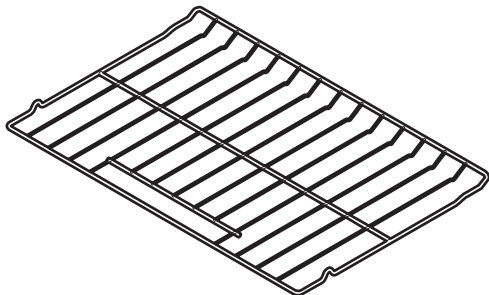
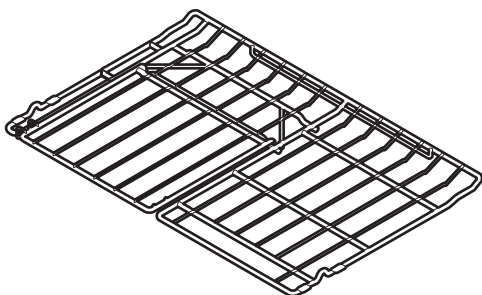
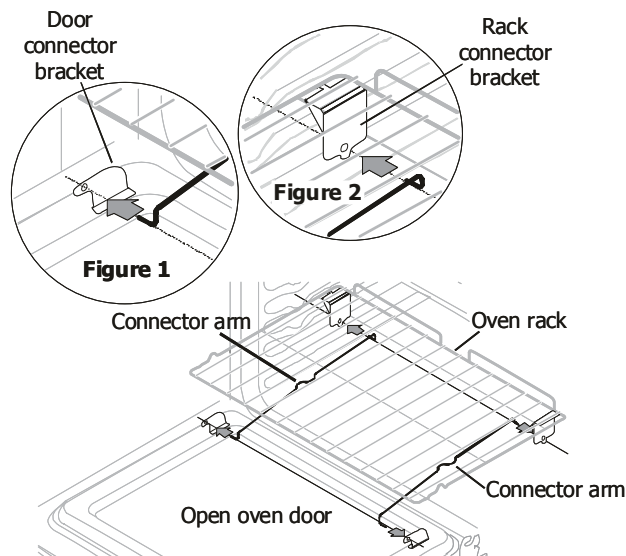

Figure 1
Figure 2
Figure 3 - Assembly of the Effortless™ oven rack
- **Flat handle oven rack** (Figure 1).
The **Flat Oven Half Rack** has a removable insert that can provide extra space for larger food items. The right half rack portion may still be used for other food items like a casserole dish (See Figure 2 & 3). To remove the insert, squeeze on the left front insert side (See Figure 5) of the rack and tilt out clockwise. To reinstall, insert rear hooks at back of insert (See figure 5) and lay insert down. Make sure both insert front hooks snap into rack (See figure 6).
3. Place the oven rack in positions 1, 2 or 3 only (see previous page to verify positions). Be sure the rack connector brackets are at the rear of the range and pointing towards oven bottom (See Figure 2).
4. Assemble one connector arm at a time. With the oven door open and the oven rack in place, install one end of the connector arm to the hole in the door connector bracket (Figure 1) and the other end in the hole in the rack connector bracket (Figure 2 and as in Figure 3). The oven rack may need to be adjusted in or out in the rack position to match the length of the connector arm.